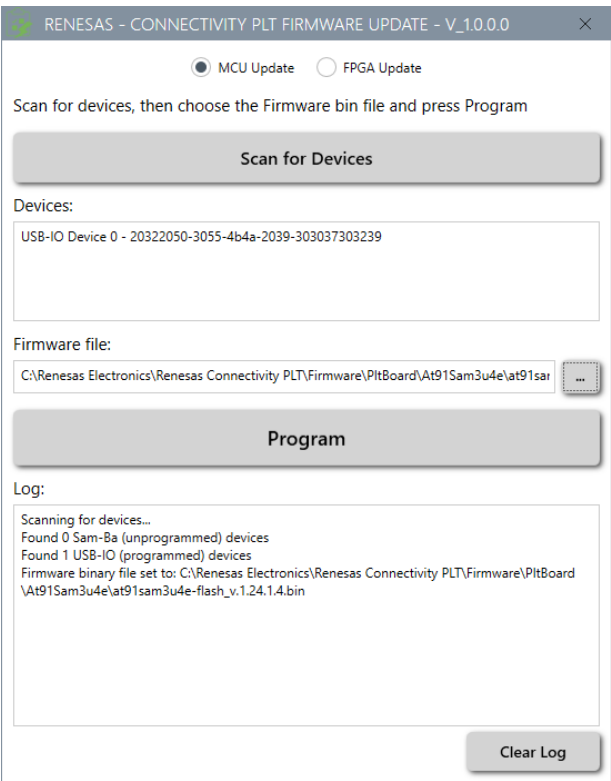
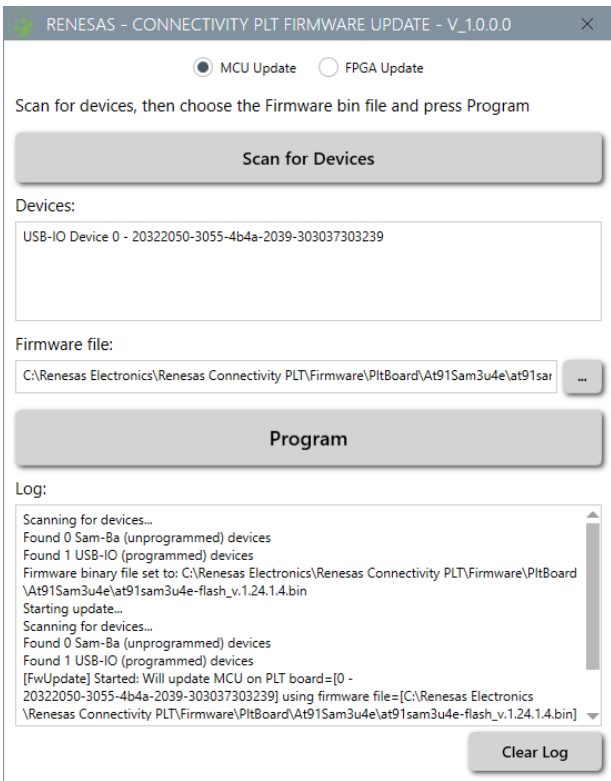

Figure 115. Firmware update - .bin file loading
Figure 116. Firmware update - Programming
4. Click **Program**. See Figure 115 and Figure 116.